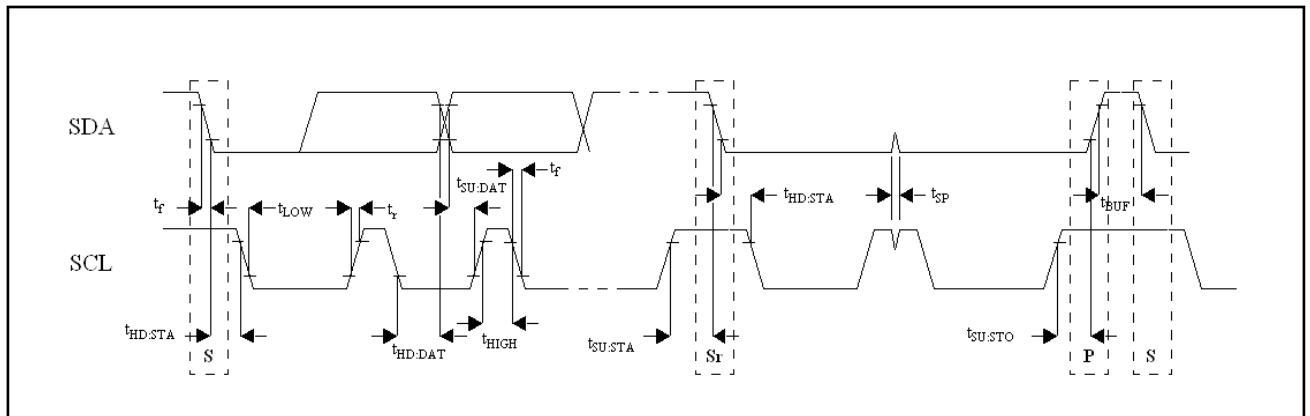

Figure 49. I²C Serial Microport Timing
* For I²C timing diagram, refer to Figure 49